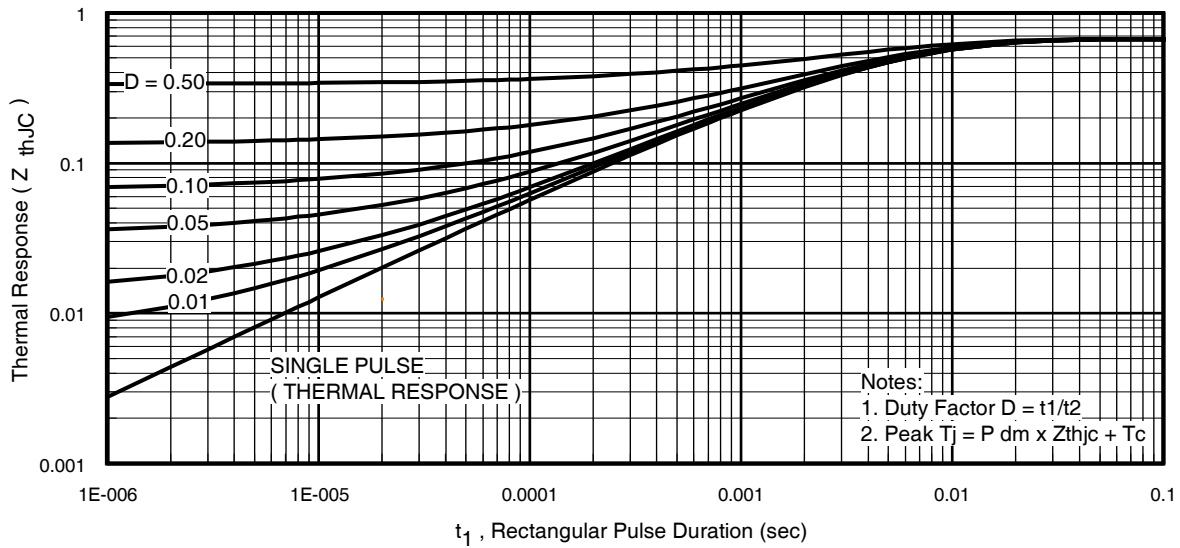

Fig 11. Maximum Effective Transient Thermal Impedance, Junction-to-Case
- ① Repetitive rating; pulse width limited by max. junction temperature. (See fig. 11).
- ② Limited by T_{Jmax} , starting $T_J = 25^\circ\text{C}$, $L = 0.11\text{mH}$, $R_G = 25\Omega$, $I_{AS} = 75A$, $V_{GS} = 10V$. Part not recommended for use above this value.
- ③ Pulse width $\leq 1.0\text{ms}$; duty cycle $\leq 2\%$.
- ④ $C_{oss \text{ eff.}}$ is a fixed capacitance that gives the same charging time as C_{oss} while V_{DS} is rising from 0 to 80% V_{DSS} .
$Z_{thJC}(D, t_{av})$ = Transient thermal resistance, see figure 11)